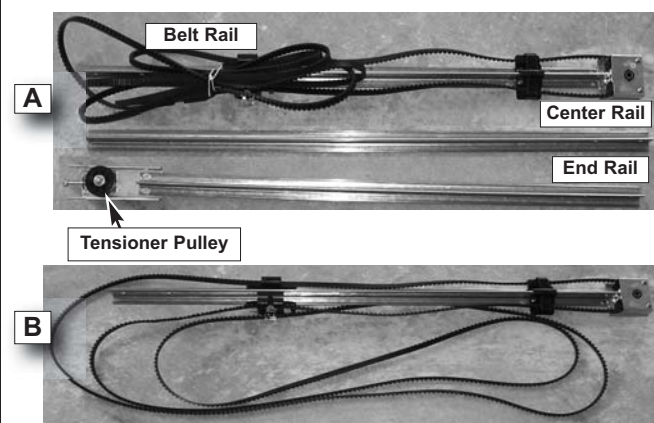

FIG. 1-2 Split Rail sections.
3. Remove the two rail sections that are not connected to the chain and place them on floor (Fig. 1-2, A).
4. Carefully remove the third rail section with chain and plastic sleeve. Place rail section on floor and extend chain straight out (Fig. 1-2, B). Chain and rail should extend approximately 7 feet.
3. Remove the two rail sections that are not connected to the belt and place them on floor (Fig. 1-2, A).
4. Carefully remove the third rail section with belt. Place rail section on floor, remove ties on belt and extend belt straight out (Fig. 1-2, B). Avoid twists and kinks in the belt by careful handling and keeping belt flat on the floor. Belt and rail should extend approximately 7 feet.